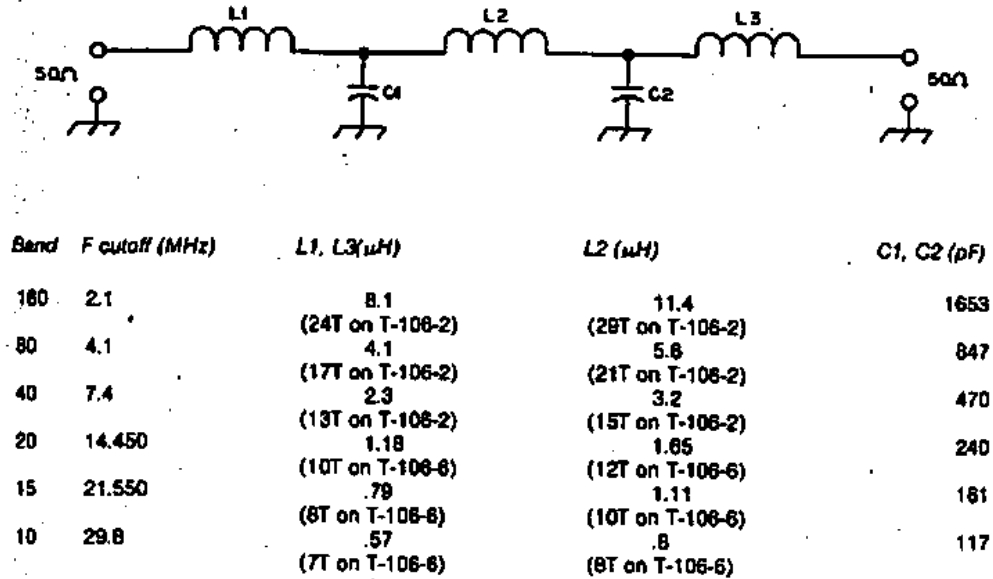

Figure 1 – Low Pass Filter Design
4. The output of the amplifier contains harmonics of the input signal. Thus if direct operation into an antenna is expected, filtering of the output is necessary to meet FCC regulations for spectral purity. The low pass filters shown in Figure 1 will provide more than sufficient harmonic attenuation with less than 1 dB of loss at the operation frequency.